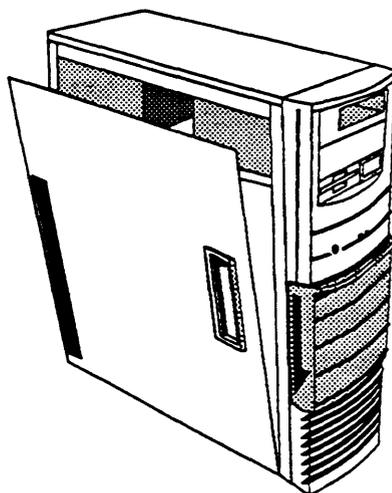

Figure 3-14. Removing the Side Panel
4. Tilt the side panel outward and lift upward as shown in Figure 3-14.